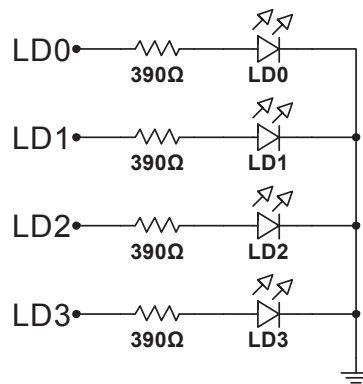

Figure 1: CHMOD-S6 LEDs
- 1.3. Using the schematics of the board (Figure 1), if the FPGA sends a logic 1 to one of the LEDs, would it turn on or off?